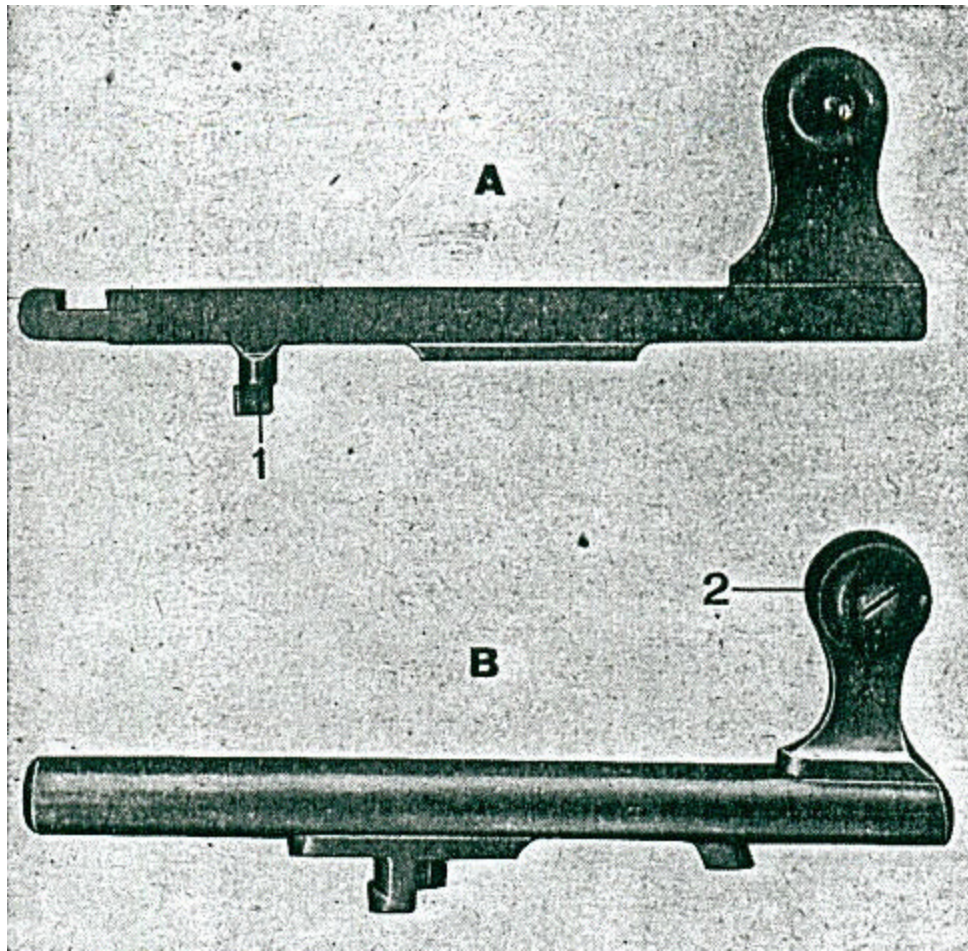

Figure 8
- The bolt with the bolt cam follower (fig. 8) , the cylinder (fig. 9) , the locking sleeve (fig. 10) and the firing pin mechanism (fig. 11 and 12);